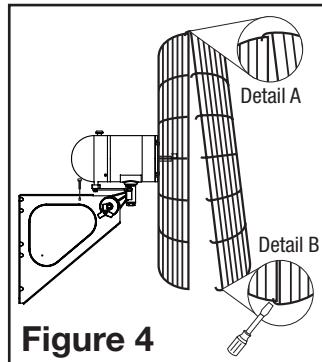

Figure 4
3. Hold the Front Grill so that the name, in the center, is right side up and straight across. Starting at the top: Fasten Front Grill to Rear Grill by sliding the hooked wires on the Front Grill over the outermost ring on the Rear Grill. (**Figure 4 / Detail A**). The bottom most hooks will require the use of a flathead screwdriver to complete assembly. Stand behind the Fan. Slip the flat of the screwdriver between the Front and Rear Grills, next to one of the unfastened hooks (**Figure 4 / Detail B**). Pull screwdriver handle upwards towards the Rear Grill. Slip the Front Grill hook over the Rear Grill outer ring with a push. Repeat procedure with remaining hooks.